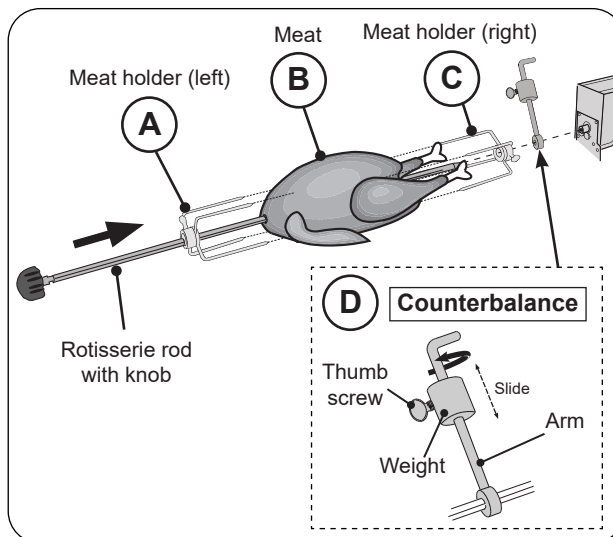

Fig. 36-3 Assemble rotisserie rod for cooking
4. Slide the left meat holder onto the rod and tighten (see Fig. 36-3, A).
5. Then slide meat onto the rod, followed by the right meat holder (see Fig. 36-3, B and C).
8. The counterbalance may then be attached to even weight distribution. Slide the counterbalance onto the rod next to the right meat holder (see Fig. 36-3, D). Loosen the arm and point it upward opposite the heavy side of the meat. Tighten the arm.
9. Slide the counterbalance weight up or down the arm until the rod rotates most evenly then tighten thumb screw (see Fig. 36-3, D).